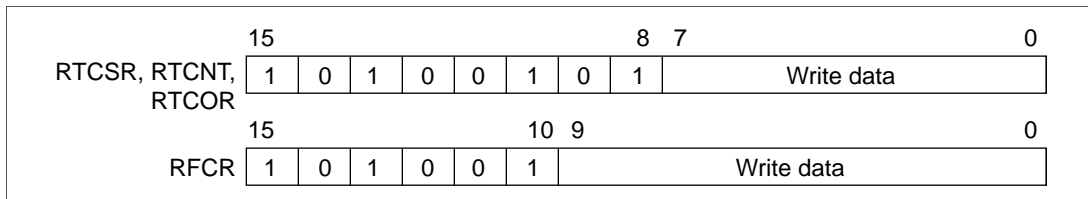

Figure 10.5 Writing to RFCR, RTCSR, RTCNT, and RTCOR
RFCR, RTCSR, RTCNT, and RTCOR require that a specific code be appended to the data when it is written to prevent data from being mistakenly overwritten by program overruns or other write operations (figure 10.5). Perform reads and writes using the following methods:
1. When writing to RFCR, RTCSR, RTCNT, or RTCOR, use only word transfer instructions. Byte transfer instructions cannot be used. When writing to RTCNT, RTCSR, or RTCOR, place B'10100101 in the upper byte and the write data in the lower byte. When writing to RFCR, place B'101001 in the top 6 bits and the write data in the remaining bits, as shown in figure 10.5.